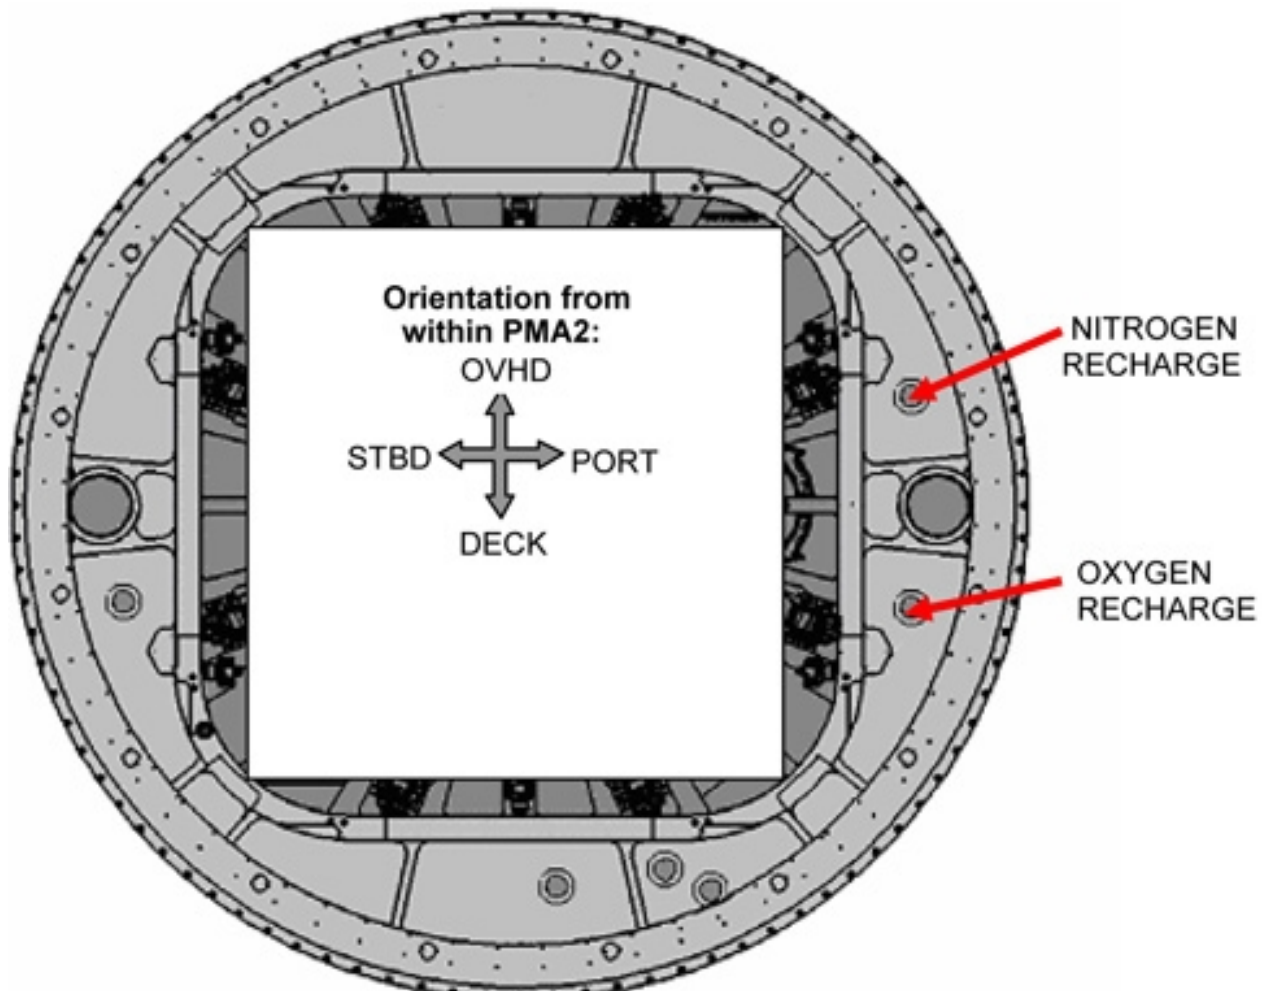

Figure 2. NOD2 Fwd External Bulkhead (orientation from within PMA2 looking Aft).
- 3.3 Loosen NOD2 NITROGEN RECHRG, OXYGEN RECHRG feedthrough caps (two) (FFTD; Ratchet, 3/8" Drive). Refer to Figure 2.